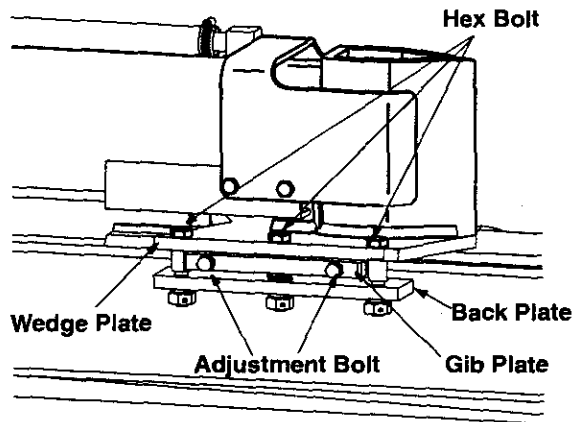

Figure 13
- Loosen the lock nuts on the two adjustment bolts on the side of the gib plate, located beneath the splitting wedge. See Figure 13. Turn the adjustment bolts in until snug, then back them off **slowly** until the wedge assembly will slide on the beam.
- Remove the center bolt on top of the wedge plate. Slide the gib plate out. See Figure 13.